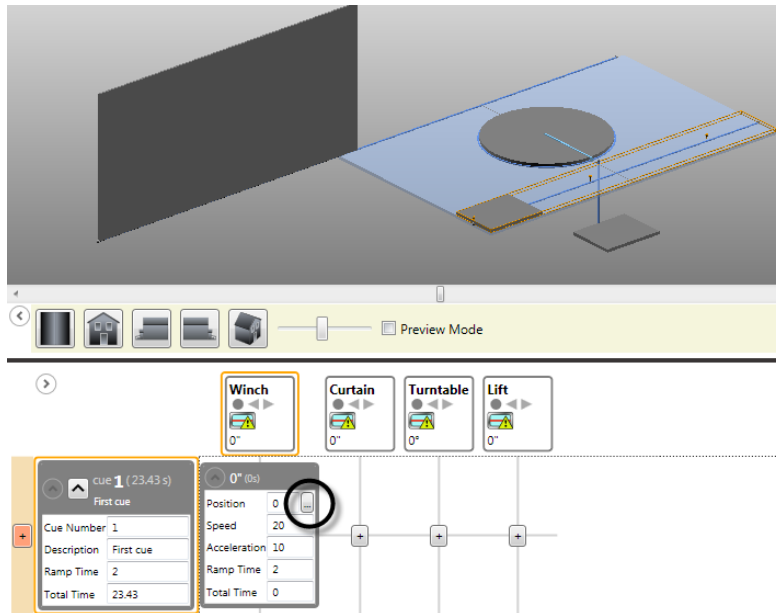

Figure 212
4. Click on the **Spike Position** button in the motor's movement window (Figure 212).